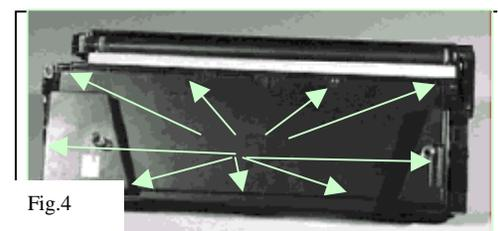

Fig.4
3. The toner hopper cover must be removed after both the Doctor Blade and Magnetic Roller has been removed. Unclip the 5 plastic locking tabs and remove the 4 Phillips screws for toner hopper cover removal.(**fig.4**) Dump remaining unused toner from toner hopper and toner hopper cover. Inspect toner hopper cover for damage to sealing gasket and foam.